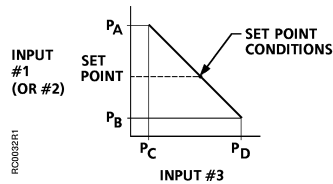

Figure 9. Graph of Percent Authority Formula.
Step 2 Determine Percent Authority Setting using Formula B (See *Figure 9*) or graphically.
- For two and three input receiver-controllers the set point conditions equal the midpoint of the usable portion of the schedule. See *Figure 9*. This is expressed in percent RH, degrees Fahrenheit, inches W.G., or metric units.